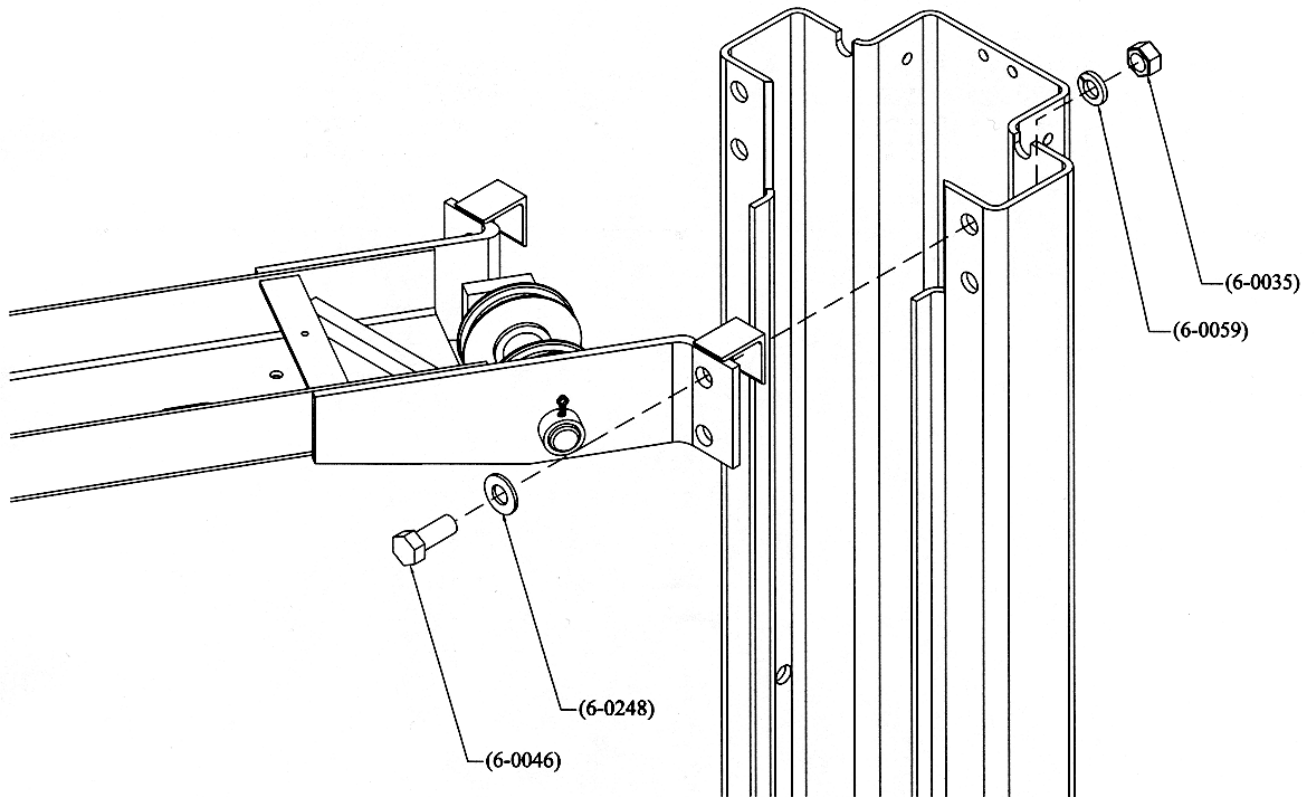

Figure 5 – Crossmember Assembly
2. Using a stepladder, install the crossmember using eight (8) ½"-16UNC x 1 ¼" lg. hex head bolts, eight (8) ½" ID lock washers, eight (8) ½" hex nuts and eight (8) ½" flat washers. See **Figure 5**